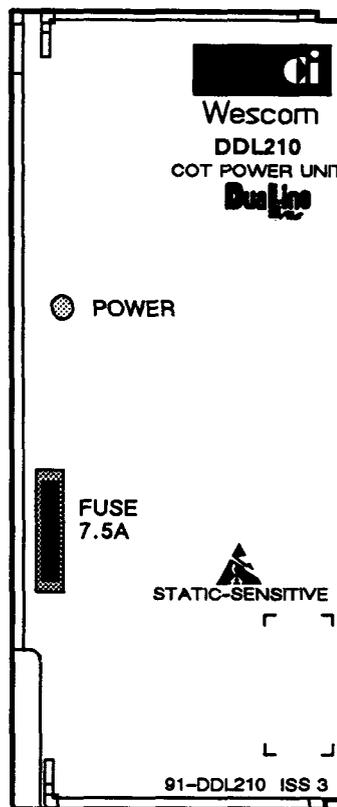

Figure 1. DDL210 COT Power Unit
1.01 This practice provides a general description of the Wescom® DDL210 DualLine Plus™ Central Office Terminal (COT) Power Unit. The DDL210 COT Power Unit is depicted in Figure 1.